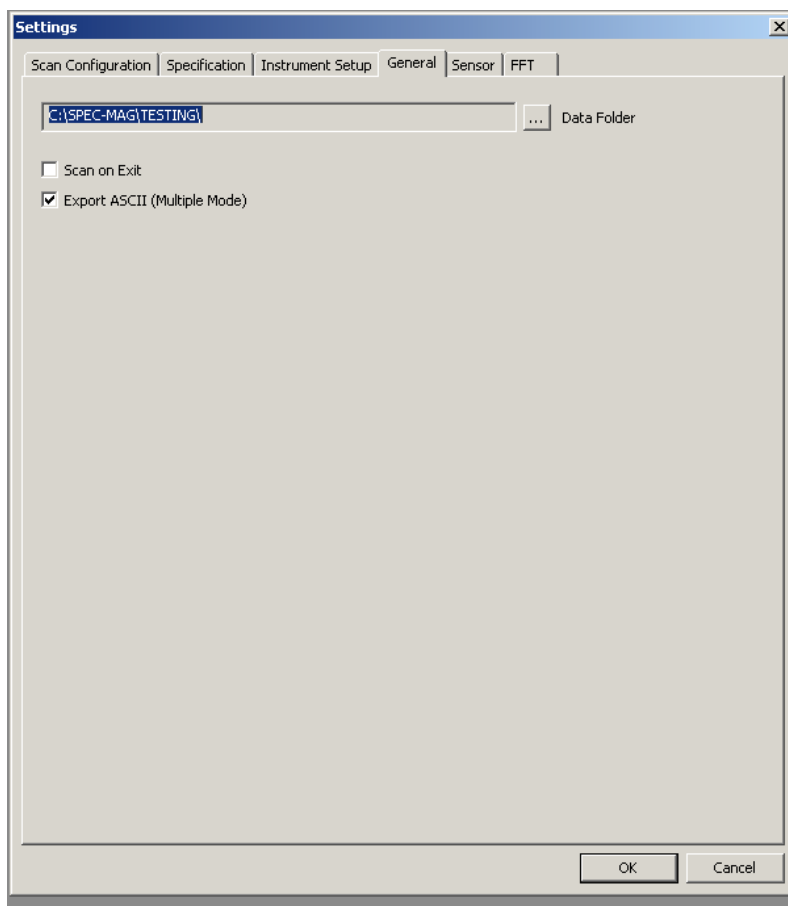

Figure 10: The General sub-menu.
**Note:** In **Multiple** mode, data is automatically logged to the hard disk as .sm6 files and as ASCII files if this option is selected under the **General** sub-menu. The location of the data files is specified by clicking the **General** sub-menu as shown in **Figure 10**.
This sub-menu (**Figure 10**) lets the user select the **Data Folder** where data can be exported after a scan is completed.